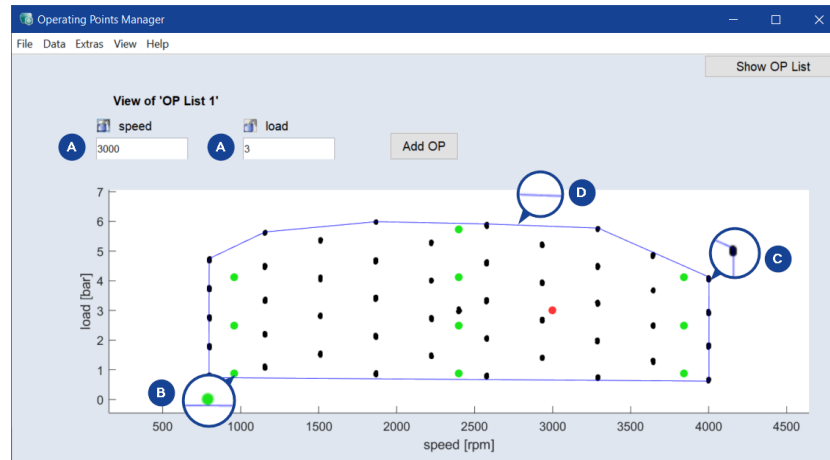

Fig. 6-6: Operating points manager (A: input fields for operating point values, B: operating points, C: measurement points, D: convex hull of the plot)
Operating Points Manager opens (see Fig. 6-6: on page 119).
- Enter the desired values in the input fields above the plot ((A) in Fig. 6-6: on the next page).
5. To visualize the operating points in the plot ((B) in Fig. 6-6: on the next page), select **View > Show OPs**.
6. To visualize the measurement points in the plot ((C) in Fig. 6-6: on the next page), select **View > Show Measurement Points**.
- To visualize the convex hull of the plot ((D) in Fig. 6-6: below), select **View > Show Convex Hull**.